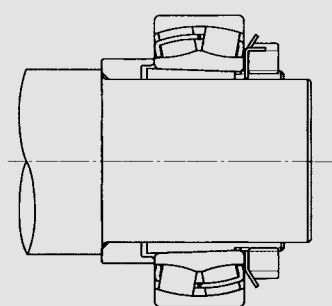
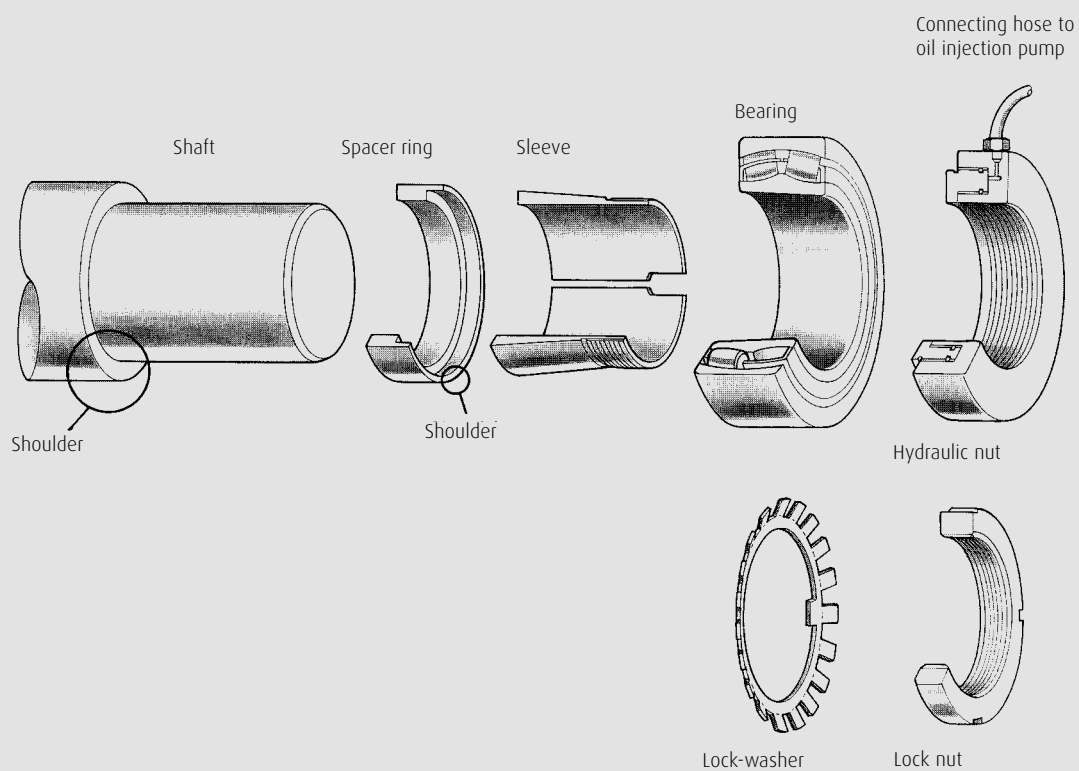

Fig. 6.11 Assembly view
Fig. 6.12 Hydraulic nut method
b) Hydraulic nut method (Fig. 6.11 and Fig. 6.12)